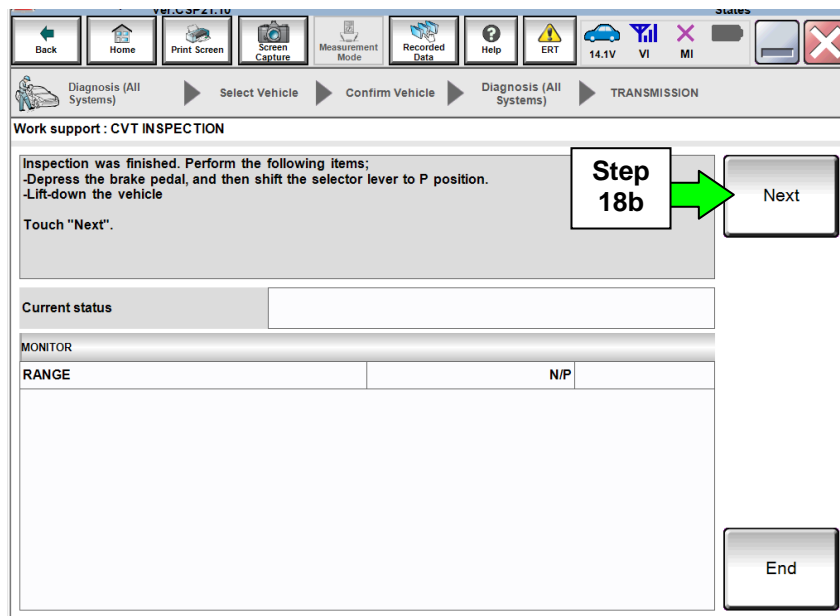

Figure 12
- b. If Figure 12 is displayed press the brake pedal and move the shifter lever into the “P” position, and then select **Next**.